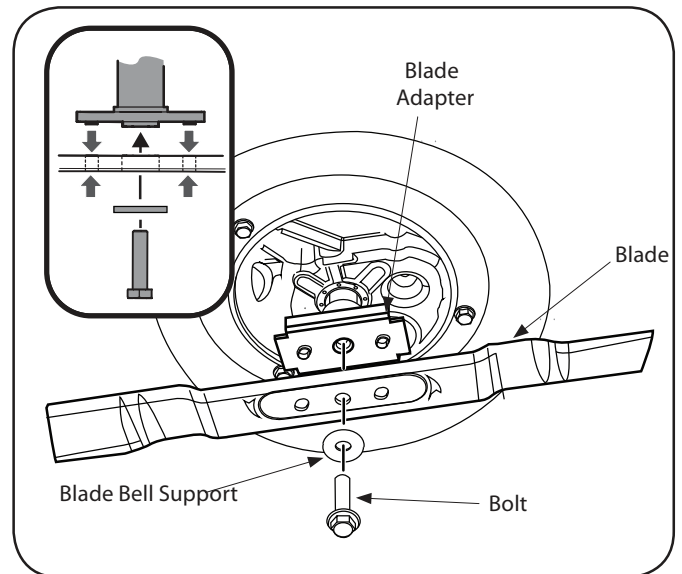

Figure 9
5. Lubricate the engine crankshaft and the inner surface of the blade adapter with light oil. Slide the blade adapter onto the engine crankshaft. Place the blade on the adapter such that the side of the blade marked "Bottom" (or with part number) faces the ground when the mower is in the operating position. Make sure that the blade is aligned and seated on the blade adapter flanges. See Figure 9 inset.